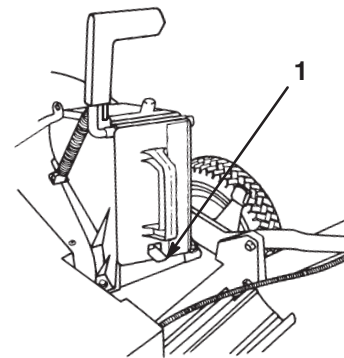

Figure 6
- Push the plug all the way in until the spring clip on the bottom of the plug clicks into place (Fig. 6).